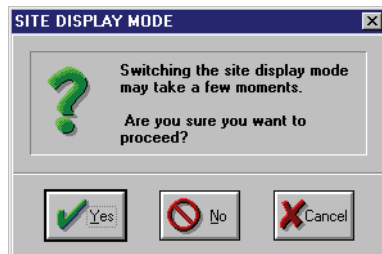

Figure 8-14: Switch Site Display Mode Verification Window
6. Depending upon the size of the user databases, switching between the one-site and all-sites modes can take up to several minutes. A verification window appears before the switch occurs to verify the switch should be performed (see Figure 8-14).